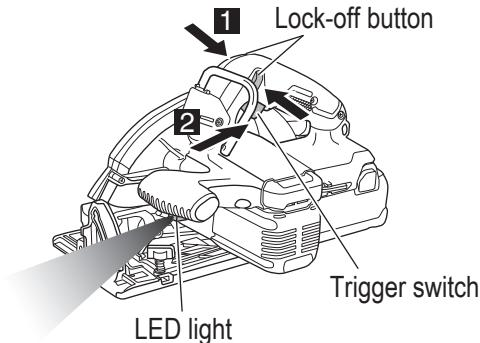

Fig. 23
9. How to use the LED light (Fig. 23)